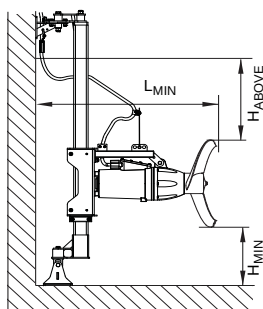

Fig. 5 Positioning sketch for mixers
- The distance between the propeller tip and the bottom of the tank, H_{MIN} in fig. 5, should be 20 to 40 cm.
- The distance from the propeller tip to the liquid surface, H_{ABOVE} in fig. 5, should be at least half of the propeller diameter.
- The distance between the propeller tip and the wall behind the mixer, L_{MIN} in fig. 5, must be at least 1.5 times the propeller diameter.